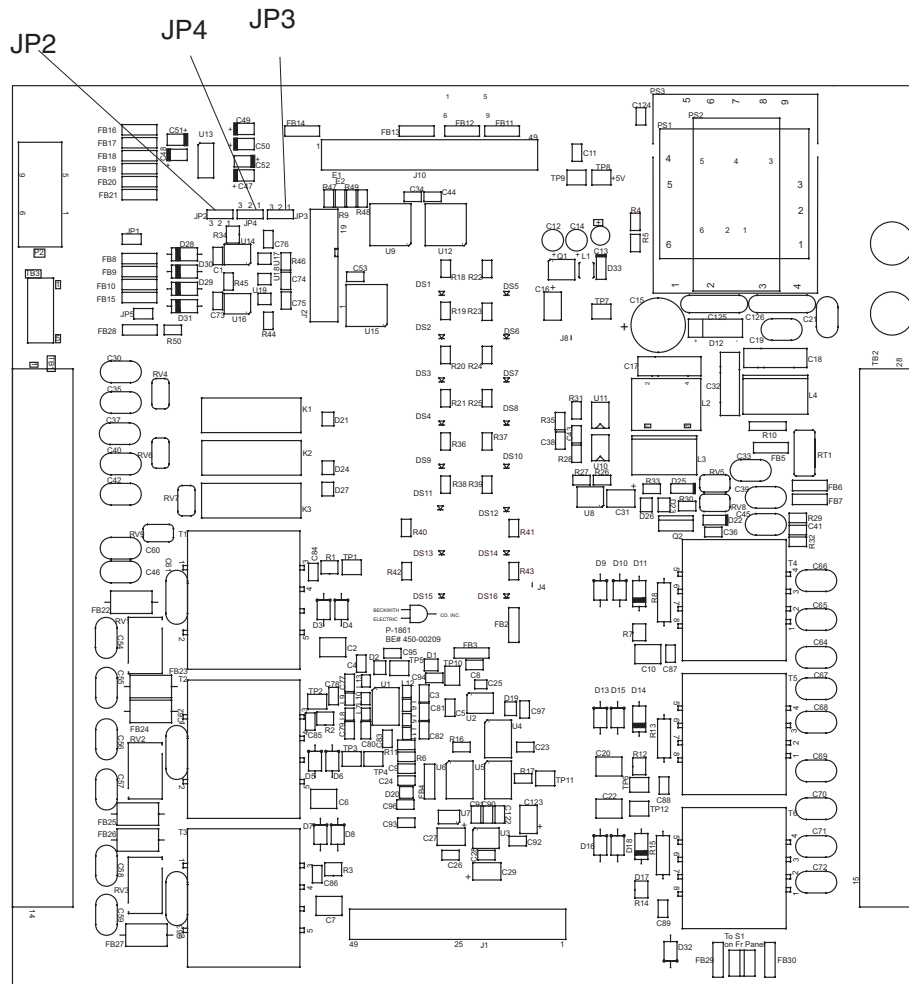

Figure 2-19 M-3410A IO Board
5. JP2, JP3, and JP4 are now accessible. See Figure 2-19, M-3410A I/O board for locations.